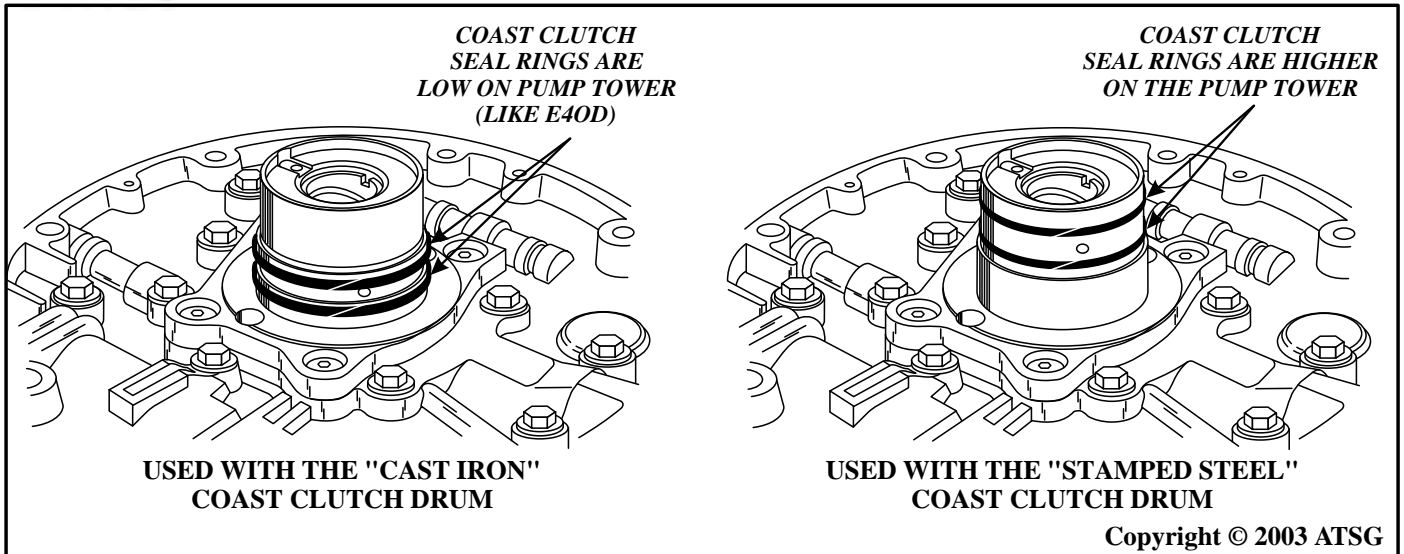

Figure 164
10. It is not necessary to remove the stator shaft assembly from the pump cover unless damage is apparent (See Figure 164).
11. If removal was necessary because of damage, refer to Figure 164, to ensure the replacement part is correct.